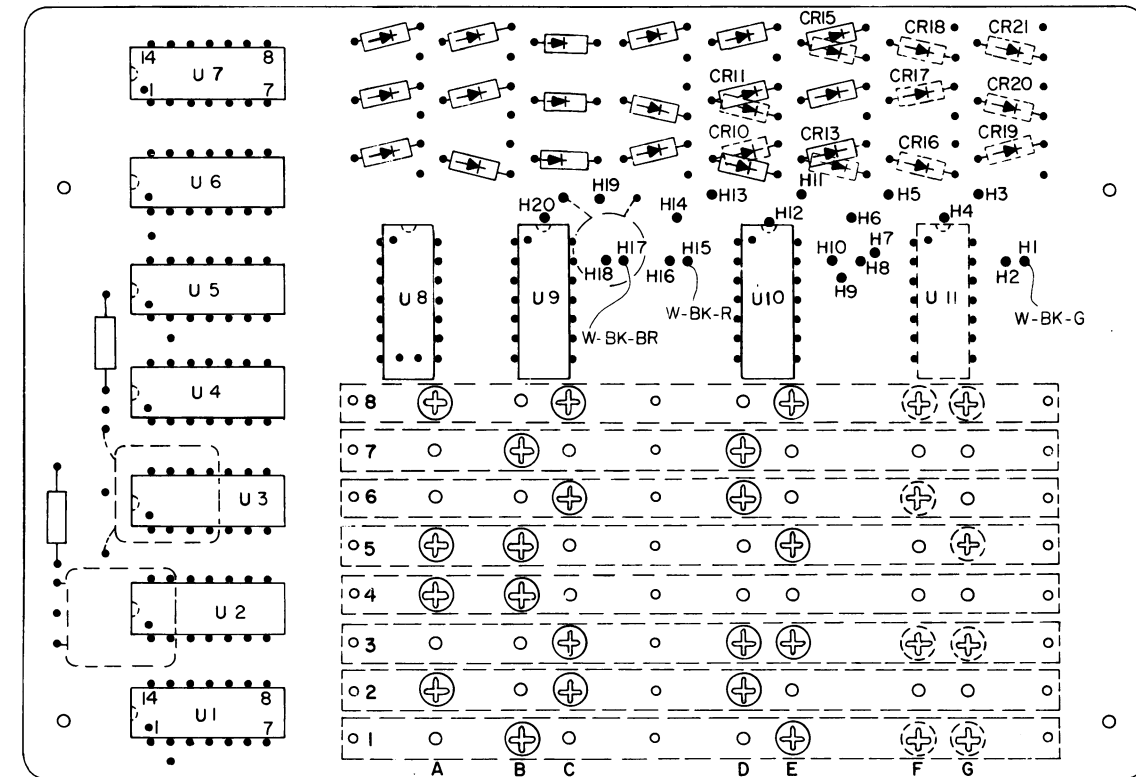

Figure 15 - Counter Board
- a. If Group Call is not desired, add a jumper from H13 to H14 (see Figure 15).
- a. If All Call is not desired, add a jumper from H11 to H12 (see Figure 15).
NOTE: Whenever more Group Call codes are required, up to 90 codes are available by connecting Group Call for third digit operation. For example: codes 979, 989 and 999 may be used for Group Call, while codes 971 thru 978, 981 thru 988 and 991 thru 998 may be used for Individual Call. For third digit Group Call, move diodes CR10 and CR11 to the dotted position as shown in Figure 15. Next, add the Group Call digit to the first two Individual Call digits as shown in the Code Setting Procedure, and place the screws at row D according to the screw placement chart.
1. Remove the white-black-brown wire connected to H17 (see Figure 15).
2. Remove the white-black-red wire connected to H15 (see Figure 15).
3. Move CR11 and CR15 to the dotted position (see Figure 15).